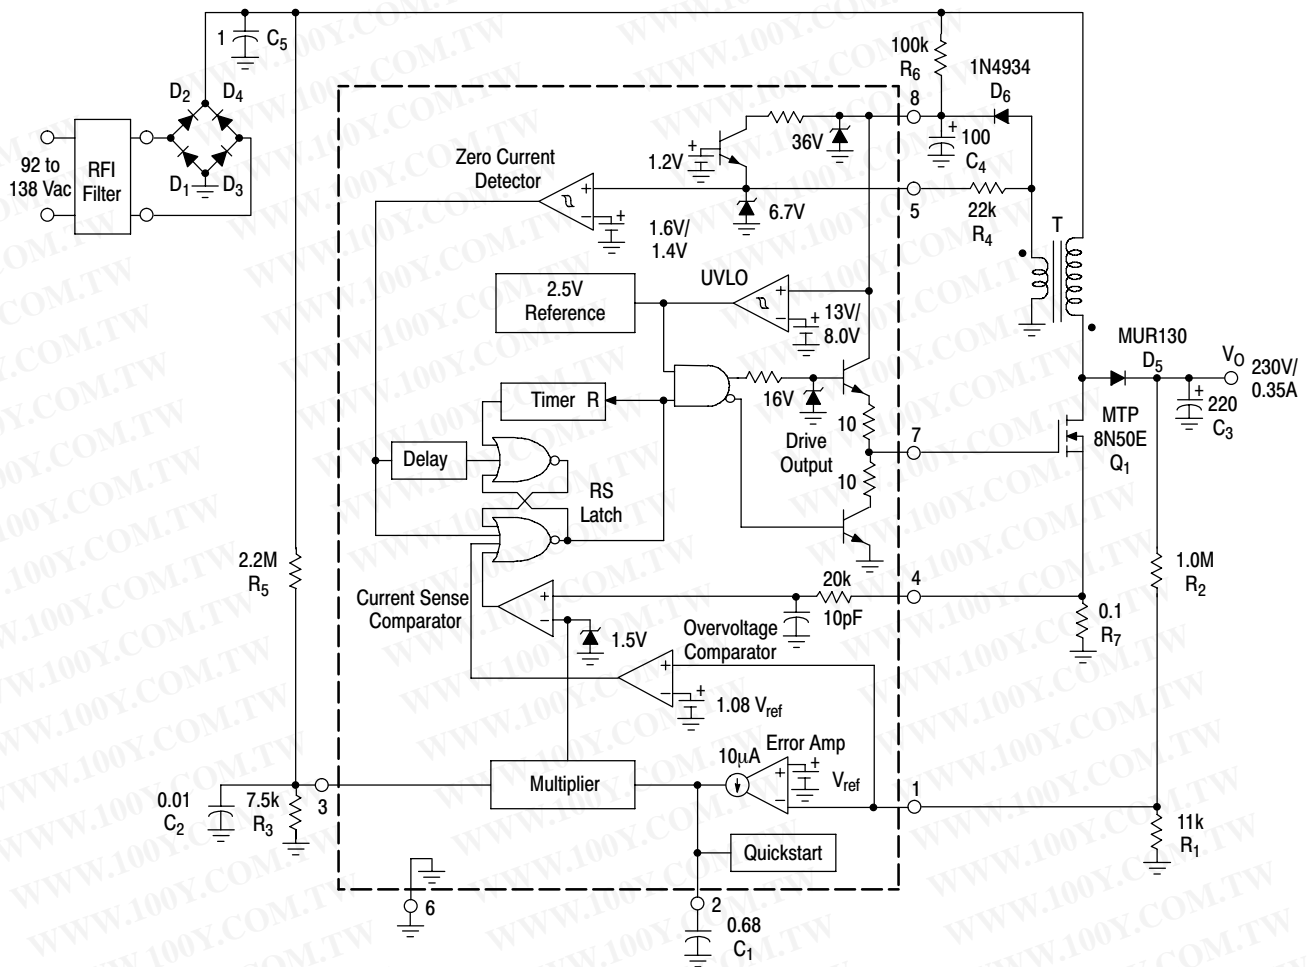
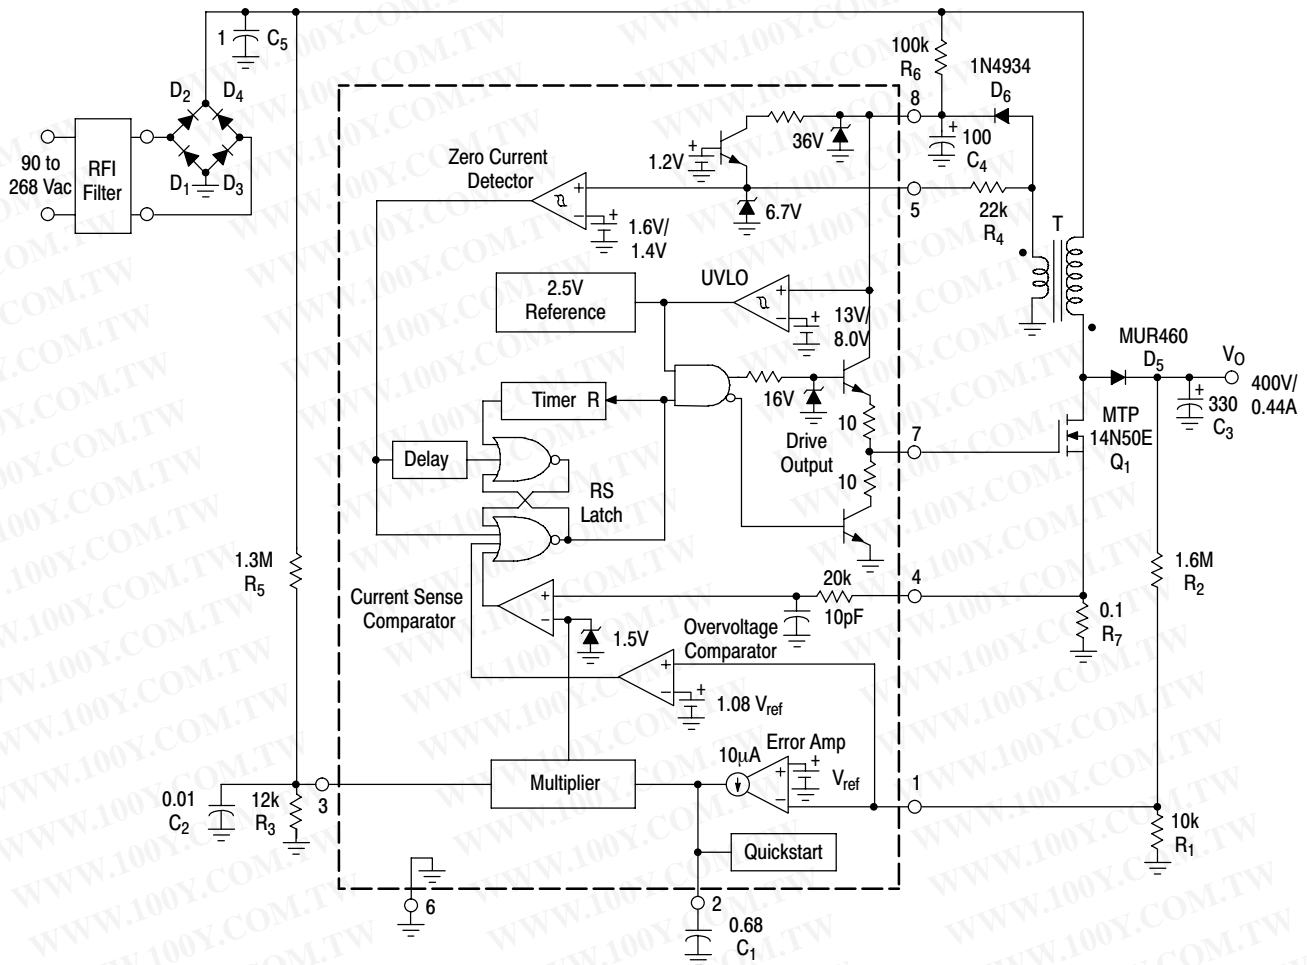
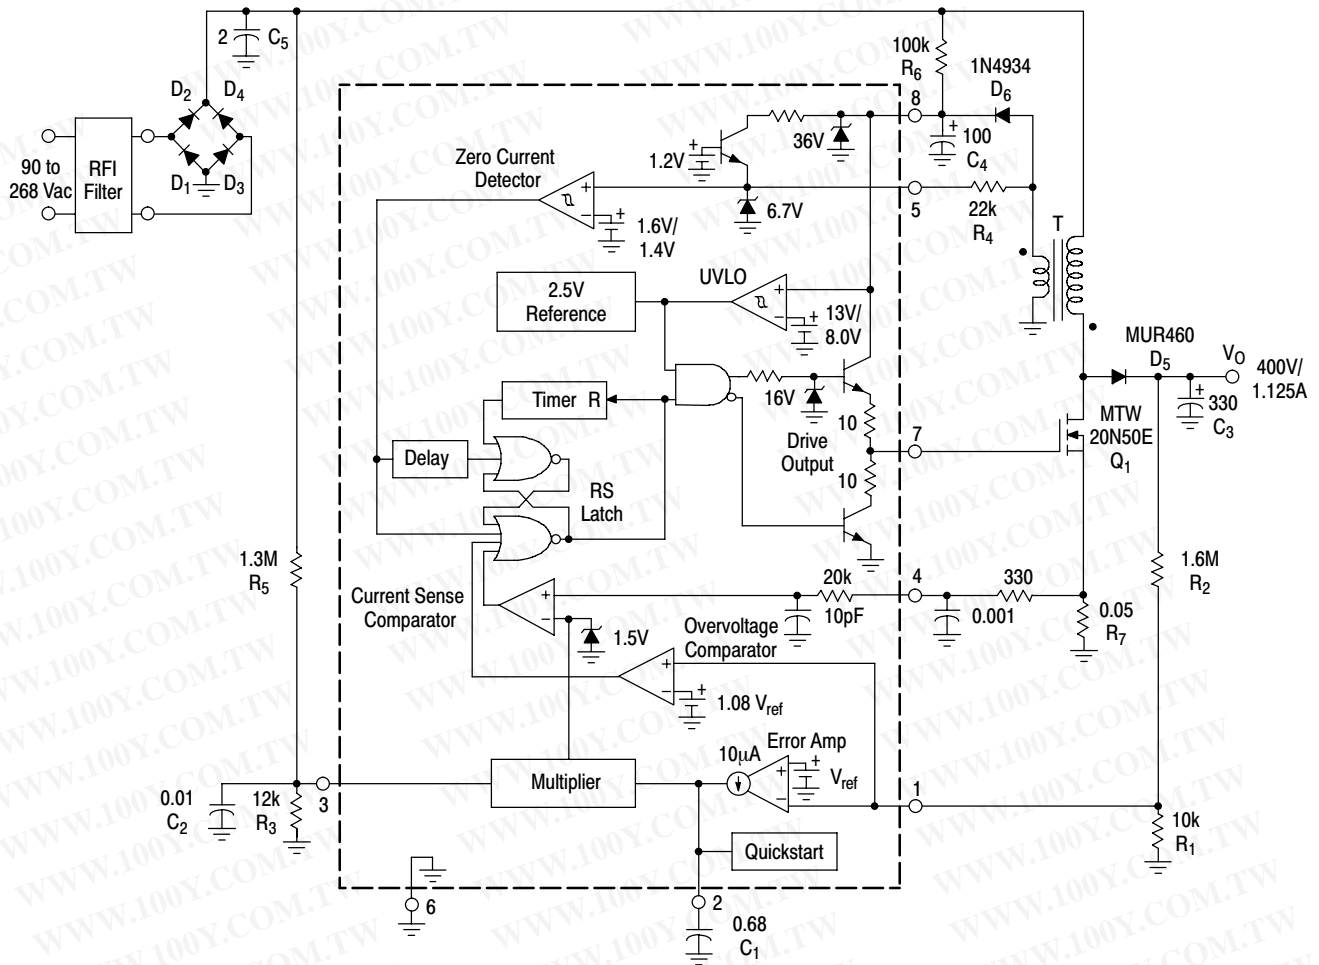

Figure 20. 80 W Power Factor Controller
Figure 21. 175 W Universal Input Power Factor Controller
Figure 22. 450 W Universal Input Power Factor Controller
An internal RC filter has been included to attenuate any high frequency noise that may be present on the current waveform. This filter helps reduce the ac line current distortion especially near the zero crossings. With the component values shown in Figure 20, the Current Sense Comparator threshold, at the peak of the haversine varies from 1.1 V at 90 Vac to 100 mV at 268 Vac. The Current Sense Input to Drive Output turn-off propagation delay is typically less than 200 ns.
0.998 at nominal line. Figures 20 and 21 are universal input preconverter examples that operate over a continuous input voltage range of 90 Vac to 268 Vac. Figure 20 provides an output power of 175 W (400 V at 440 mA) while Figure 21 provides 450 W (400 V at 1.125 A). Both circuits have an observed worst-case power factor of approximately 0.989. The input current and voltage waveforms of Figure 20 are shown in Figure 22 with operation at 115 Vac and 230 Vac. The data for each of the applications was generated with the test set-up shown in Figure 24.
An RFI filter is required for best performance when connecting the preconverter directly to the ac line. The filter attenuates the level of high frequency switching that appears on the ac line current waveform. Figures 19 and 20 work well with commercially available two stage filters such as the Delta Electronics 03DPCG5. Shown above is a single stage test filter that can easily be constructed with four ac line rated capacitors and a common-mode transformer. Coilcraft CMT3-28-2 was used to test Figures 19 and 20. It has a minimum inductance of 28 mH and a maximum current rating of 2.0 A. Coilcraft CMT4-17-9 was used to test Figure 21. It has a minimum inductance of 17 mH and a maximum current rating of 9.0 A. Circuit conversion efficiency η (%) was calculated without the power loss of the RFI filter.